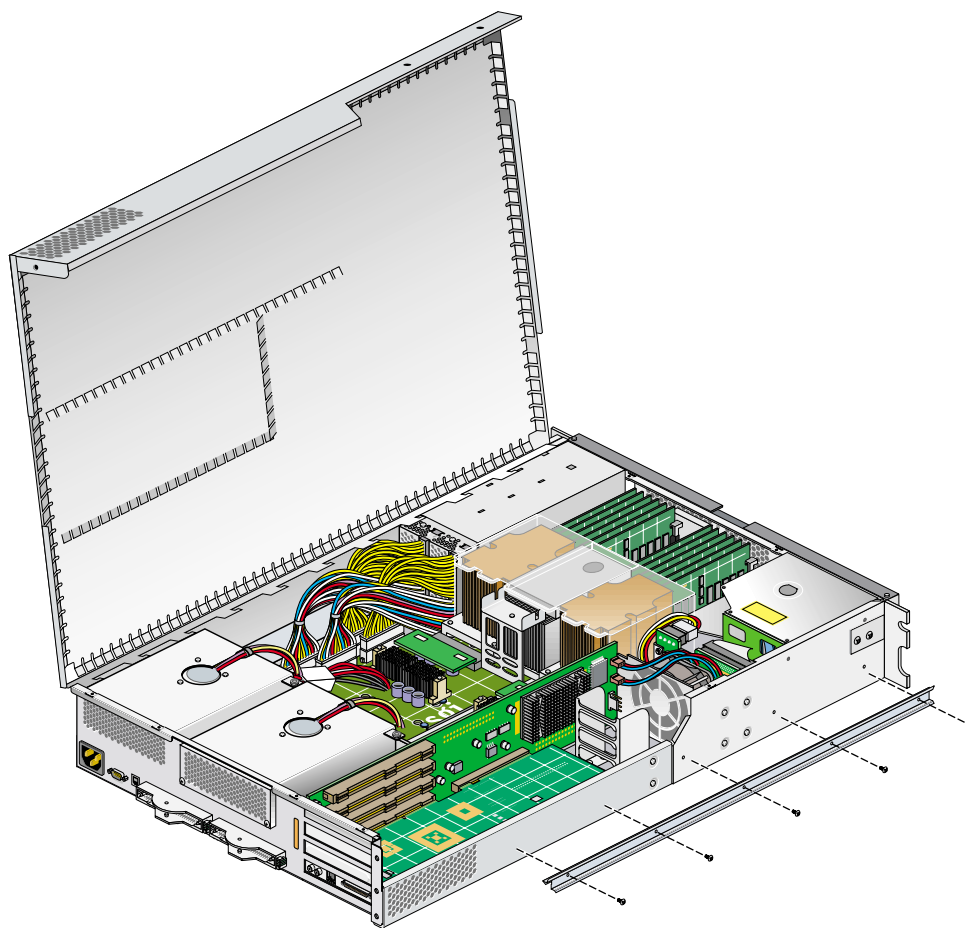

Figure 4-11 Removing the Chassis Rail
9. If you are removing a card from one of the two lowermost card slots and your system uses optional slide rails, remove the chassis rail, by unscrewing the five Phillips screws as shown in Figure 4-11. (If you are not removing a PCI/PCI-X card from one of the two lowermost card slots, proceed to step 9.)
8. When removing and replacing a graphics card, you may need to remove an optional chassis rail by unscrewing the five Phillips screws, (an example is shown in Figure 4-11).